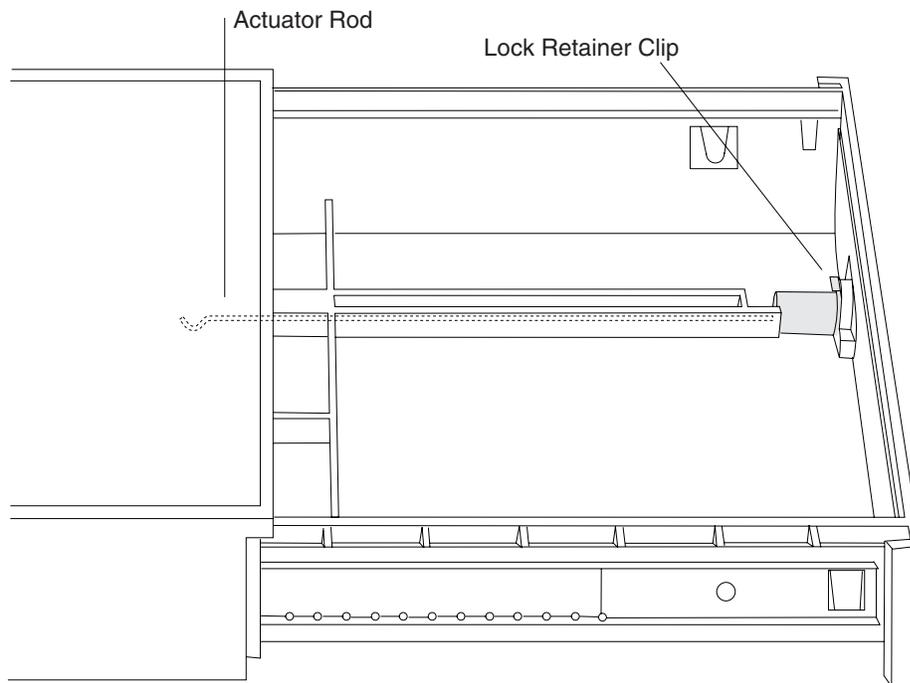

Figure 2-10. Removing and Replacing the Keylock Assembly
- 2 Remove the lock retainer clip holding the keylock assembly on the inside of the drawer. See Figure 2-10.